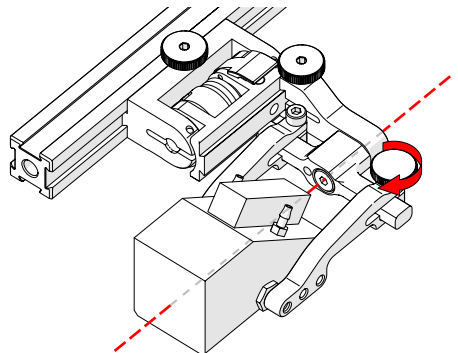

Fig. 202 - Pinch wedge with arm
9. Tighten probe holder arm adjustment knob (Fig. 202).